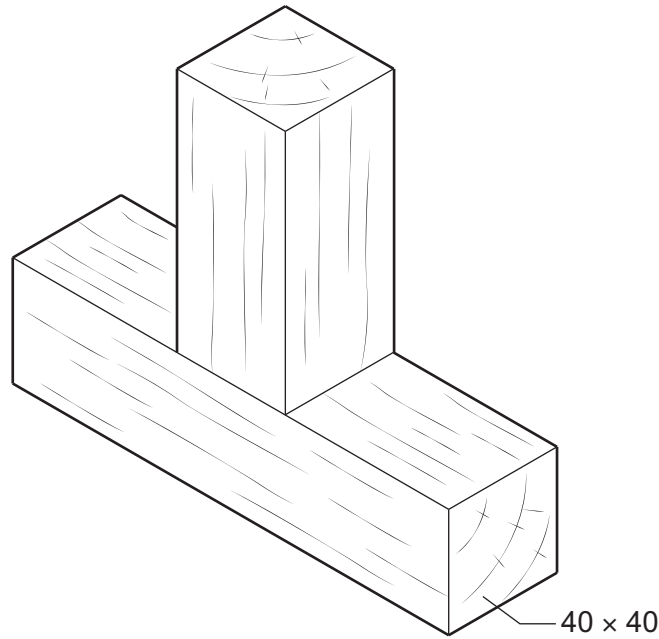

Fig. 9.1
- 9 Fig. 9.1 shows two lengths of softwood glued together.
Add sketches and notes to Fig. 9.1 to show how the joint could be strengthened. State how any additional materials are attached to the softwood.